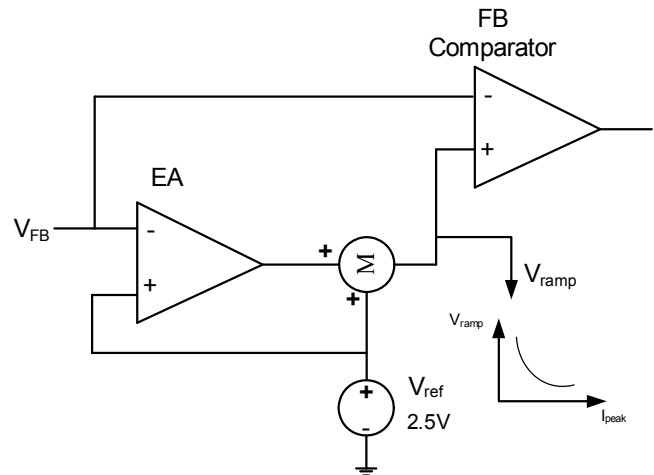

Figure 5: EA and Ramp Compensation
To improve load regulation, the MP150 implements an error amplifier (EA) compensation function (Figure 5). The MP150 samples the feedback voltage 6 μ s after the MOSFET turns off. EA compensation regulates the 2.5V reference voltage with the load, thus improving the power module regulation.
An internal ramp compensation circuit precisely maintains the output voltage. An additional exponential voltage sinking source pulls down the feedback comparator's reference voltage as shown in Figure 5. The ramp compensation is relative to the load conditions: Under full-load conditions, the compensation is ~1mV/ μ s; With a